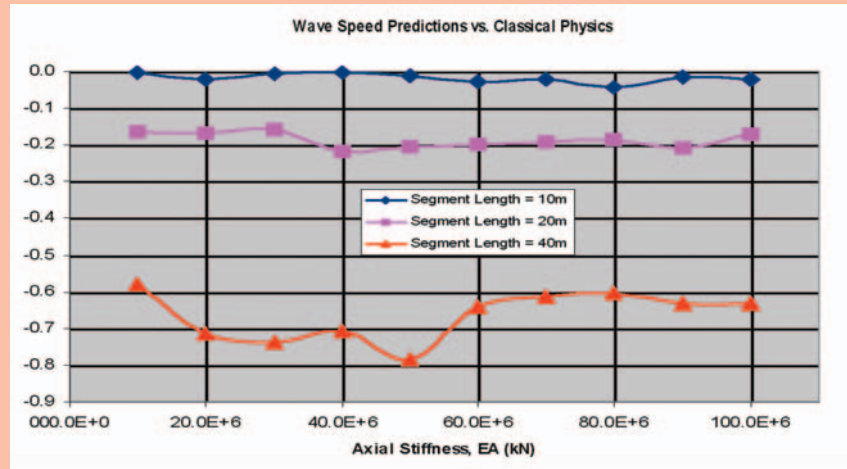

Figure 1 – Error as a Function of EA and Segment Length.
- d) *Figure 1* shows that for a given segmentation, the error is not significantly dependent on the value of axial stiffness. However, the level of segmentation can have a serious impact on the magnitude of the error.